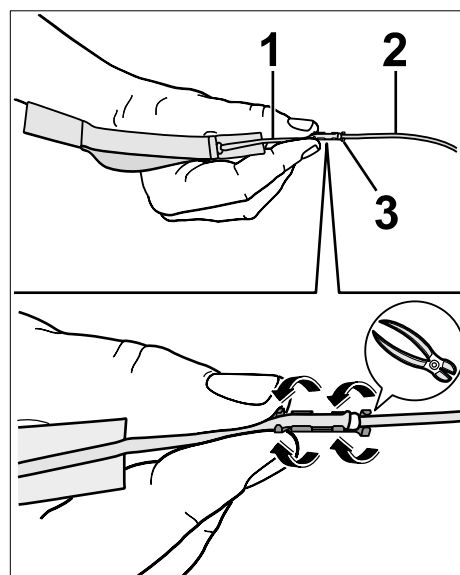

Figure 9
- 3.3 Overlap the cut end of the tension rope $\Rightarrow$ *Figure 9 -Pos. 2-* with the loose end of the new end piece from the repair kit $\Rightarrow$ *Figure 9 -Pos. 1-* and insert them into the insulated cable connection $\Rightarrow$ *Figure 9 -Pos. 3-*. Then press the insulated cable connection together securely using crimping pliers $\Rightarrow$ *Figure 9 -Arrow-.*
The two outer and inner crimping lugs of the insulated cable connection must be bent over and pressed together completely using the crimping pliers $\Rightarrow$ *Figure 9 -Arrow-.*